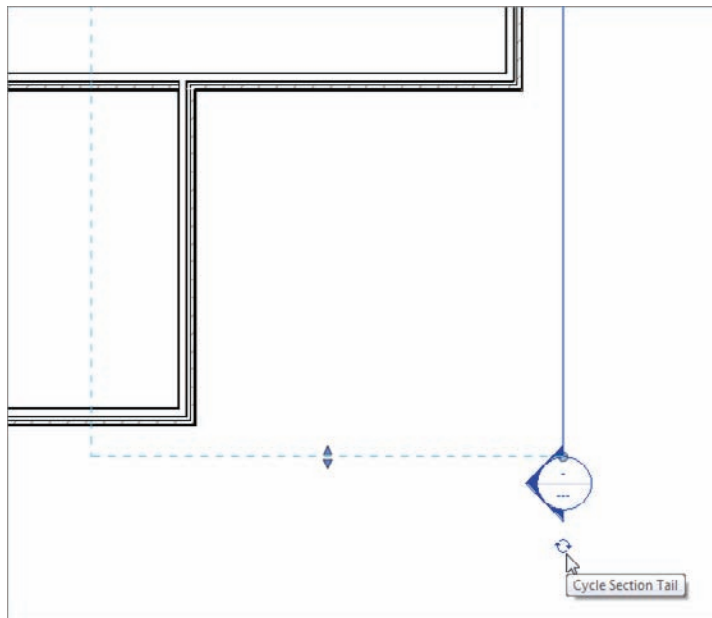

FIGURE 3.37 Cycling through the display choices
9. At each end of the section, you will see a blue icon that resembles a recycle symbol. This controls what the section head displays. By selecting this recycle icon, you can choose to have a section head, a tail, or nothing. At the tail of the section, cycle through until you get a section head (see Figure 3.37).